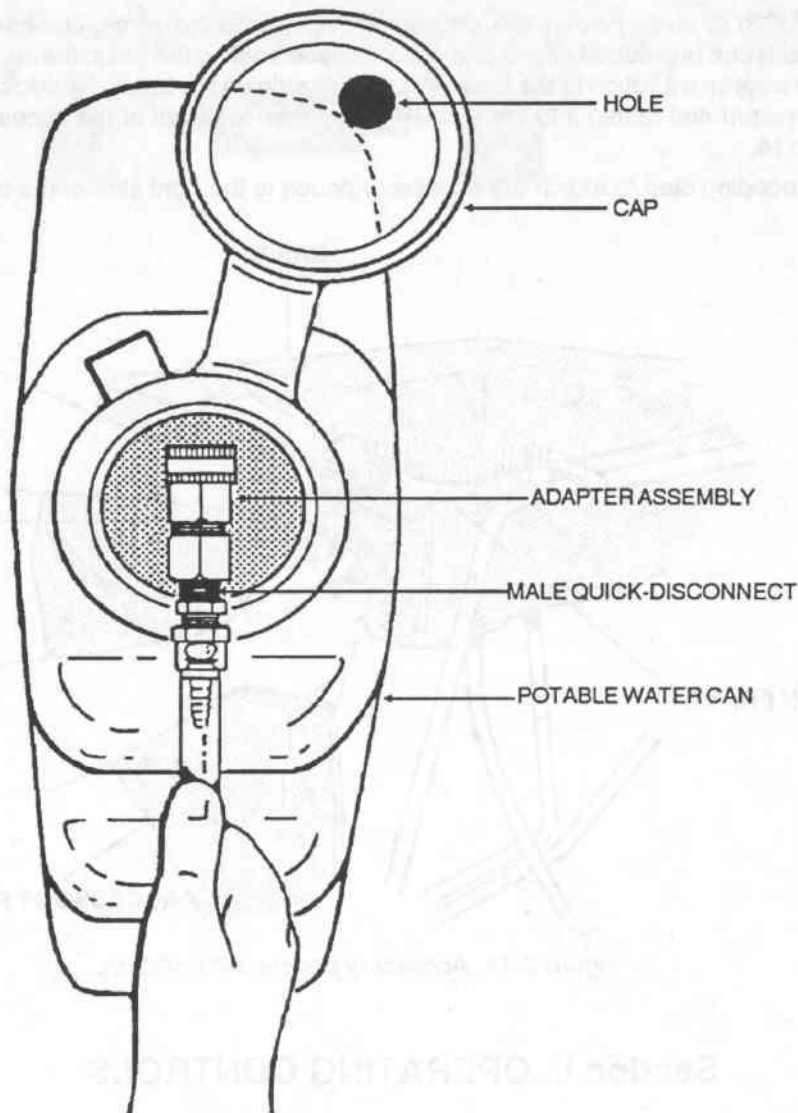

Figure 2-13. Non-pressurized water source.
(1) *Non-pressurized water source.* Connect the female quick-disconnect to the male inlet on the control box and place the other end of the hose assembly inside the potable water can (fig 2-13).
If dust is a problem in the potable water, remove the inlet hose from the potable water can. Remove the adapter assembly and insert the male quick-disconnect through the hole in the cap of the water can (fig 2-13). Reinstall the adapter assembly and close the cap of the water can. Ensure that the adapter assembly is touching the bottom of the water can.